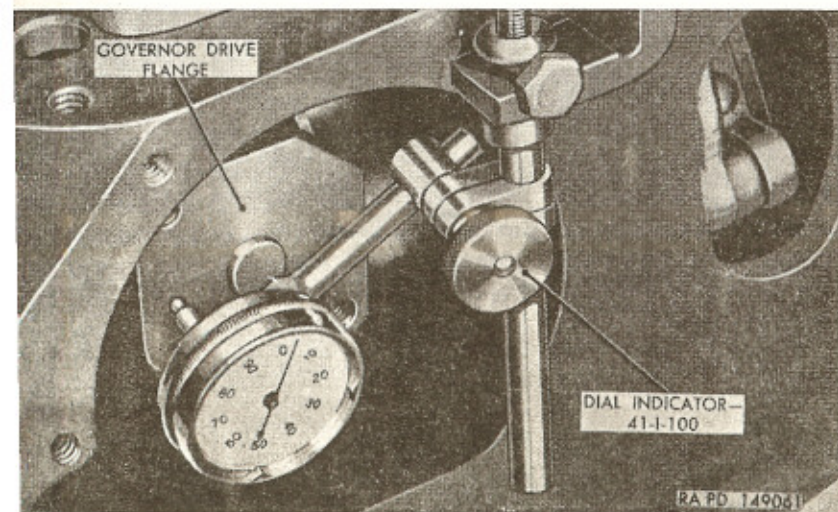

Figure 194. Checking governor drive flange runout.
- (2) Remove dial indicator. Mark position of governor body on drive flange; then remove governor from drive flange. Reinstall governor on drive flange 180° from original position. Install dial indicator and check runout in the same manner as described in (1) above. If still not within limits (0.005 inch), remove dial indicator and governor, and check as described in (3) below.
- (3) Install dial indicator—41-I-100 (fig. 194) with spindle contacting drive flange just inside tapped holes. Rotate input shaft several turns and note reading. If runout exceeds 0.002 inch, replace governor drive flange and/or rear oil pump assembly; then recheck drive flange with indicator. If within limits, install governor and check as described in (1) above. If not within limits, install